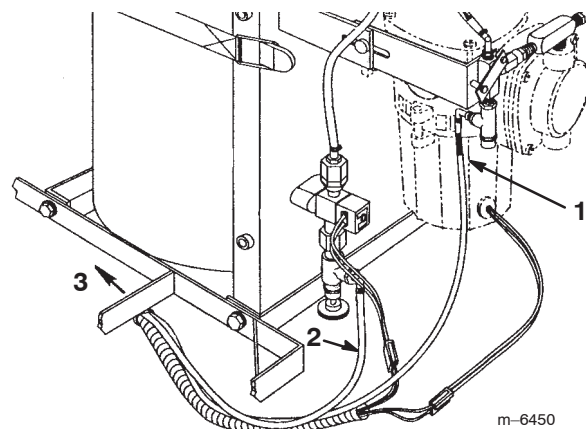

Figure 15
4. Mark a 108 inch supply hose with a black marker at each end (Fig. 15).
5. Connect the marked supply hose to the hose barb at the compressor and the other supply hose to the hose barb on the needle valve (Fig. 15).